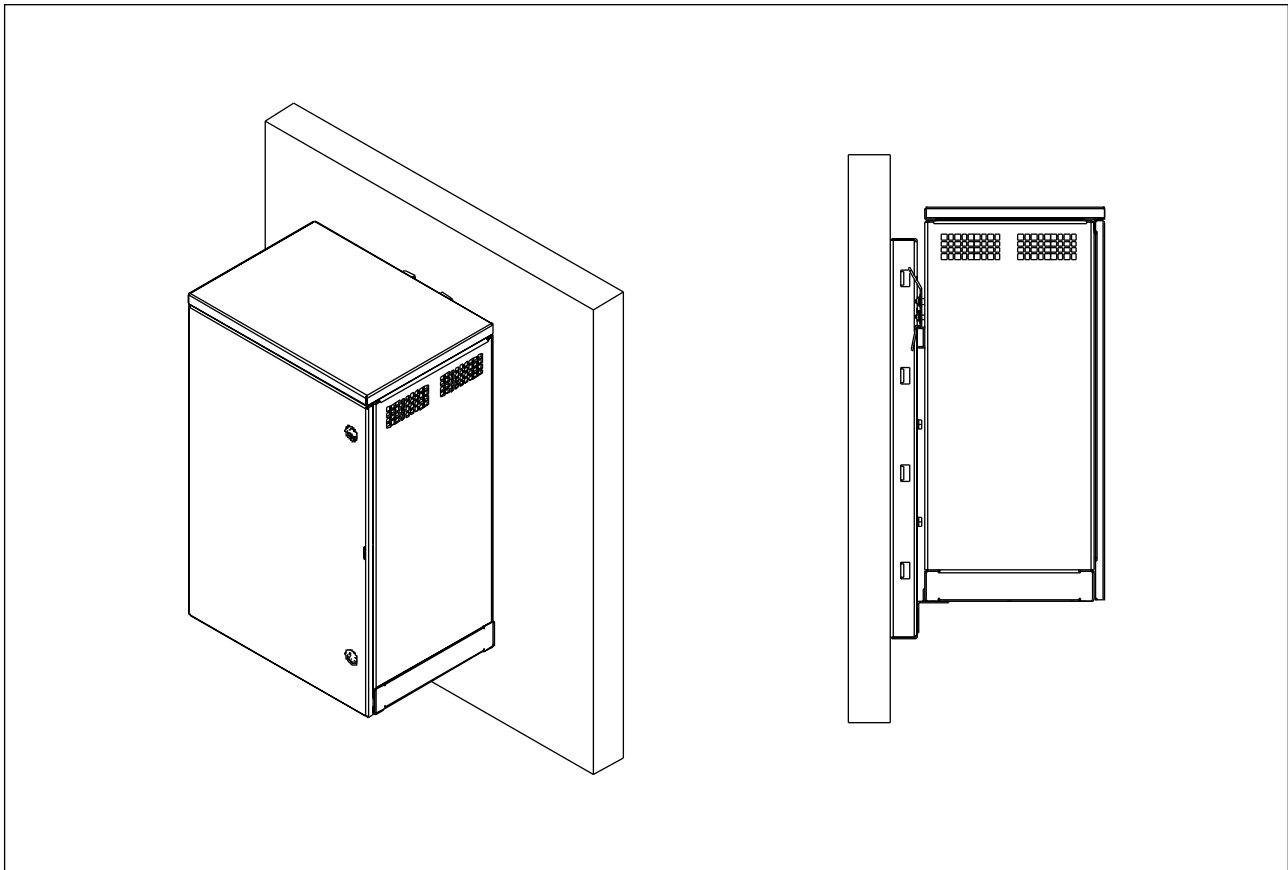

Figure 4-11. Wall Mounted cabinet
12. Attach the L-bracket to the bottom of the cabinet using two screws, two lock washers, and two flat washers. See Figure 4-11 on page 4-23. Tighten all L-Bracket screws with the tamper-resistant wrench.